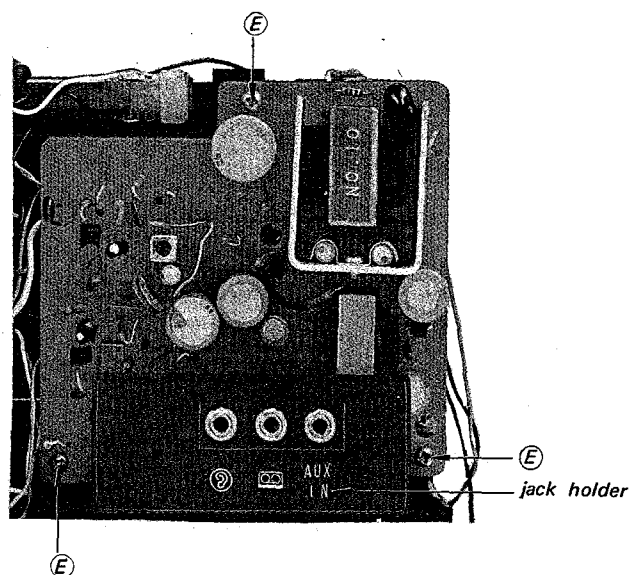

Fig. 2-7 IF-AF circuit board removal, steps 2 and 3
2. Pull off the jack holder carefully shown in Fig. 2-7.
3. Remove the three screws labeled ⑤ in Fig. 2-7.